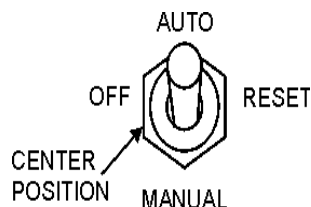

Figure 68. Off/Manual Auto Switch
5. Turn the Auto-Off/Reset-Manual switch from the MPEC to "OFF/Reset" position (Figure 68).